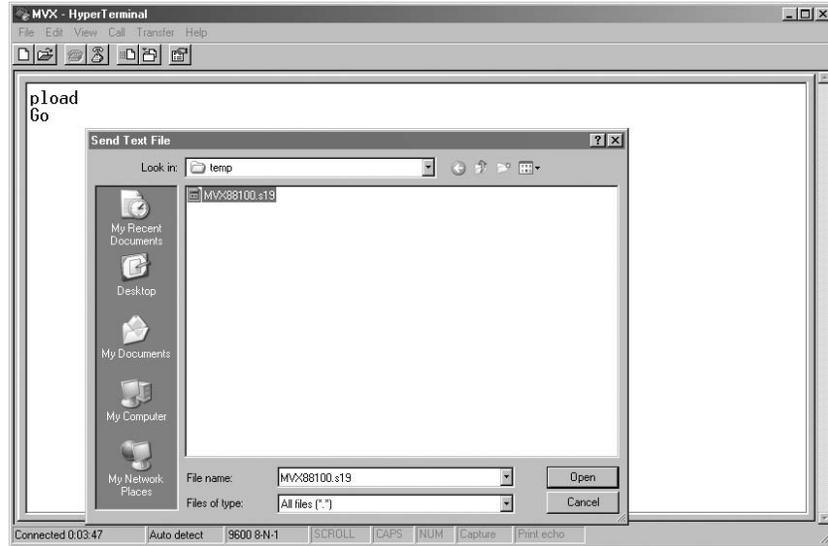

Figure 23. Select the Firmware Upgrade File
6. Navigate to the folder where you saved the firmware upgrade file. Select the file (see figure 23).